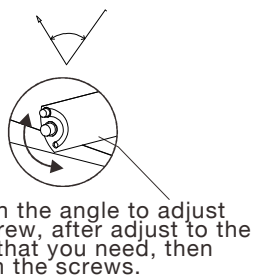

Figure 14
- STEP 3:** Connect the fixture to the bracket and tighten the screws; connect the wires properly (FIGURE 14)
- NOTICE:** Adjustable angle is 0~±194° (FIGURE 14)